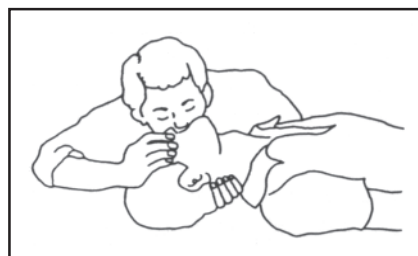

Figure 2
- if not breathing, begin artificial breathing (**Figure 2**): tilt head, pinch nostrils, make airtight seal, four quick full breaths. Remember mouth to mouth resuscitation must be commenced as soon as possible